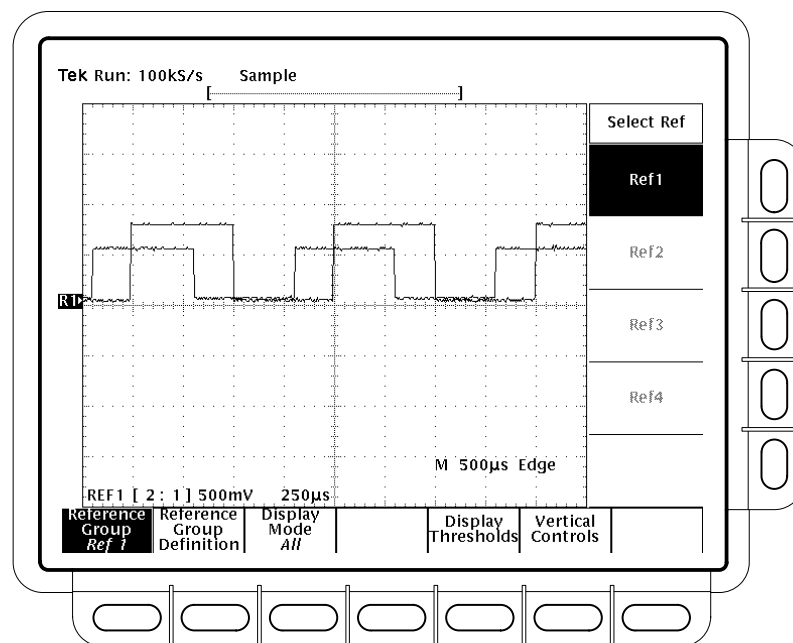

Figure 3-54: More Menu for Displaying Reference Groups
To display a waveform group stored in an internal reference memory, press **MORE** → **Reference Group** (main) → **Ref1, Ref2, Ref3, or Ref4** (side). See Figure 3-54.
- You can display any reference that is not empty. Names of empty references appear dimmed in the Select Ref menu. In Figure 3-54, the memory locations Ref2, Ref3, and Ref4 are empty. Ref1 is not empty.